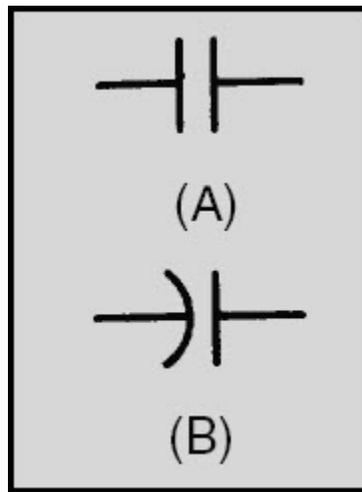

Figure 3-5 Circuit symbols for capacitors
Notice that the orbits of the electrons in the dielectric material are distorted by the electrostatic field. The distortion occurs because the electrons in the dielectric are attracted to the top plate while being repelled from the bottom plate. When switch S1 is opened, the battery is removed from the circuit and the charge is retained by the capacitor. This occurs because the dielectric material is an insulator, and the electrons in the bottom plate (negative charge) have no path to reach the top plate (positive charge). The distorted orbits of the atoms of the dielectric plus the electrostatic force of attraction between the two plates hold the positive and negative charges in their original position. Thus, the energy which came from the battery is now stored in the electrostatic field of the capacitor. Two slightly different symbols for representing a capacitor are shown in figure 3-5. Notice that each symbol is composed of two plates separated by a space that represents the dielectric. The curved plate in (B) of the figure indicates the plate should be connected to a negative polarity.